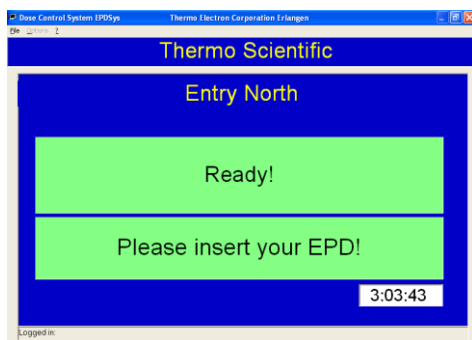

Figure 1
2. In figure 1 the display of readout station EPD-Reader is shown in a standby mode.